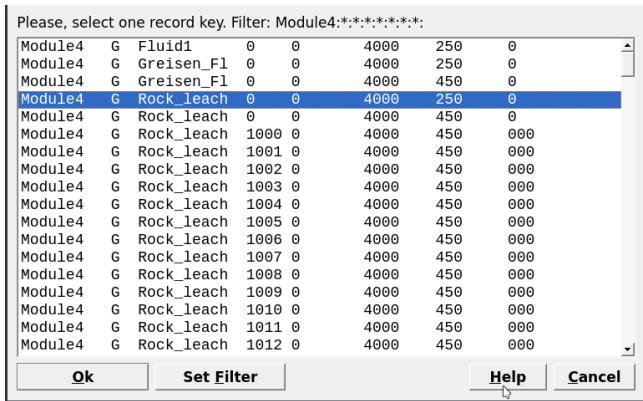

Figure 4.9: Selection of parent system equilibrium records for setting up a new multipass leaching model at 250 °C and 4 kbar.
- To change the model temperature, we are now going to create a new “Rock_leach” simulation by cloning the Process record and selecting the correspond parent chemical system at 250 °C (Fig. 4.9).